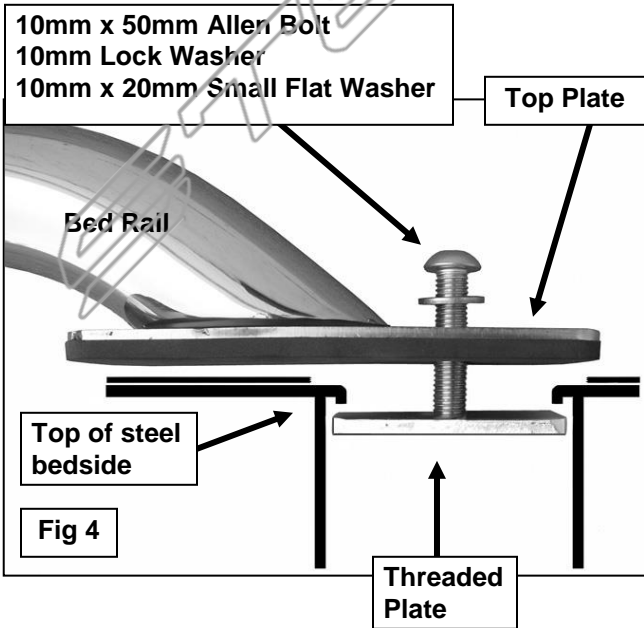

Fig 4
4. Select the passenger/right side Bed Rail. Insert (1) 10mm x 50mm Button Head Allen Bolt, (1) 10mm Lock Washer and (1) 10mm Small Flat Washer through the front mounting plate and into (1) Threaded Plate as illustrated in **Figure 4**. **NOTE:** Two types of Threaded Plates are included in the kit, **(Figures 6A & 6B)**. Use the largest Plate possible to fit across the inside of the stake pocket. Leave hardware loose at this time.